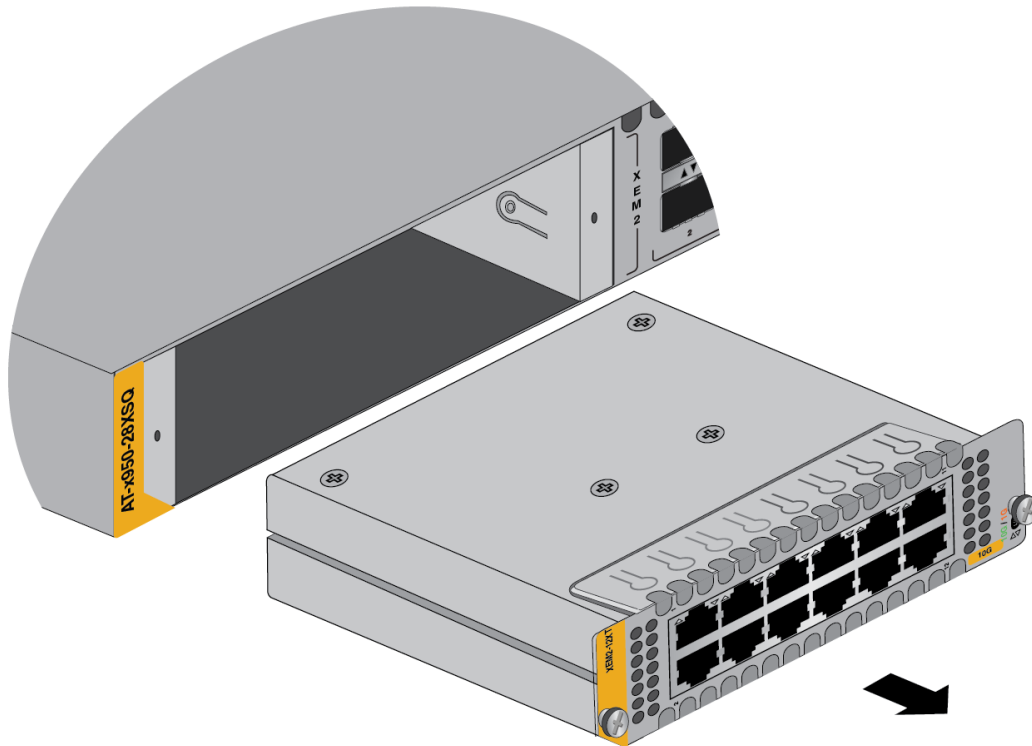

Figure 139. Sliding an Ethernet Line Card from the Switch
6. Carefully slide the card from the switch. Refer to Figure 139.